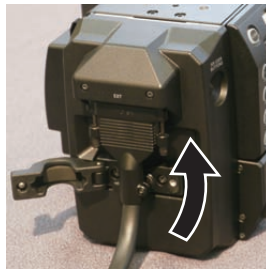

Fig. 2
- 2 Connect the extension cable to the <EXT> terminal. (Fig. 2)**